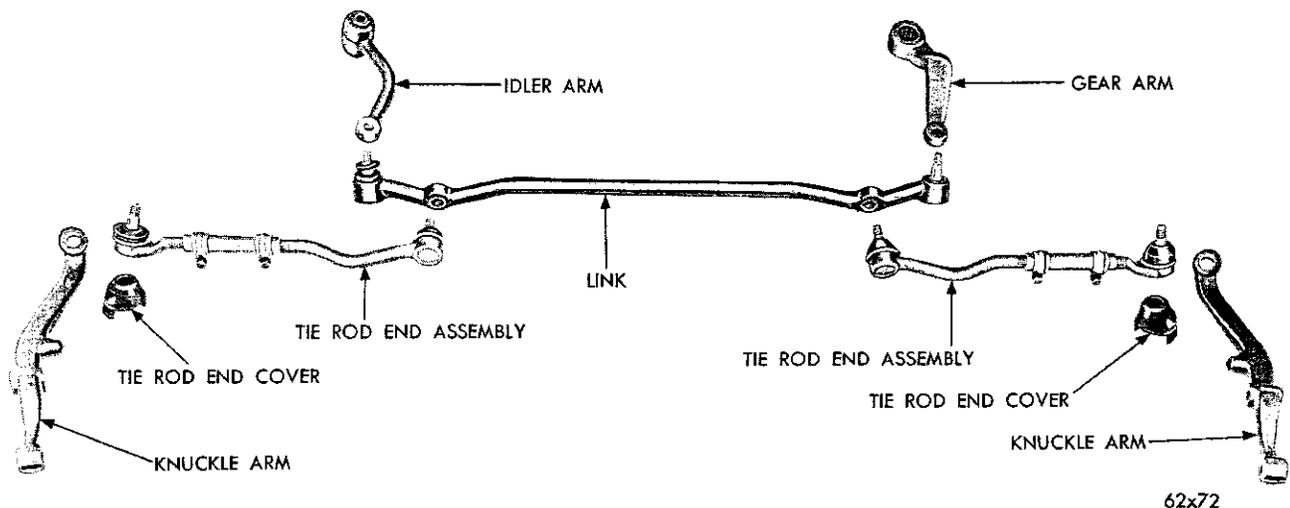

Fig. 16—Steering Linkage (Disassembled View)
- (1) Position the upper and lower ball joint studs into the steering knuckle and install the lock washer and nuts. Tighten the upper ball joint stud nut to 100 foot-pounds torque on Models TC-1 and TC-2 and 135 foot-pounds torque on Models TC-3 and TY-1. Tighten the lower ball joint stud nut to 115 foot-pounds TC-1 and TC-2, 135 foot-pounds (TC-3 and TY-1) and install the cotter pin.
- (2) Slide the brake dust shield, support and shoe assembly over the knuckle and into position. Install the lockwashers and nuts on the upper rear and lower front bolts.
- (3) Install the upper front and lower rear bolts through the dust shield and steering knuckle. Position the steering arm over the bolts. Install the lockwashers and nuts. Tighten the steering knuckle to brake support bolts 55 foot-pounds torque and the steering knuckle to steering knuckle arm bolts 80 foot-pounds torque. Install the cotter pins.
- (4) Remove the covering from the brake shoes. Install the wheel, tire and drum assembly. Adjust the front wheel bearings. Refer to Paragraph "Front Wheel Bearing Adjustment." in the "Front Suspension" Group 2.
6. STEERING LINKAGE (Figure 16)